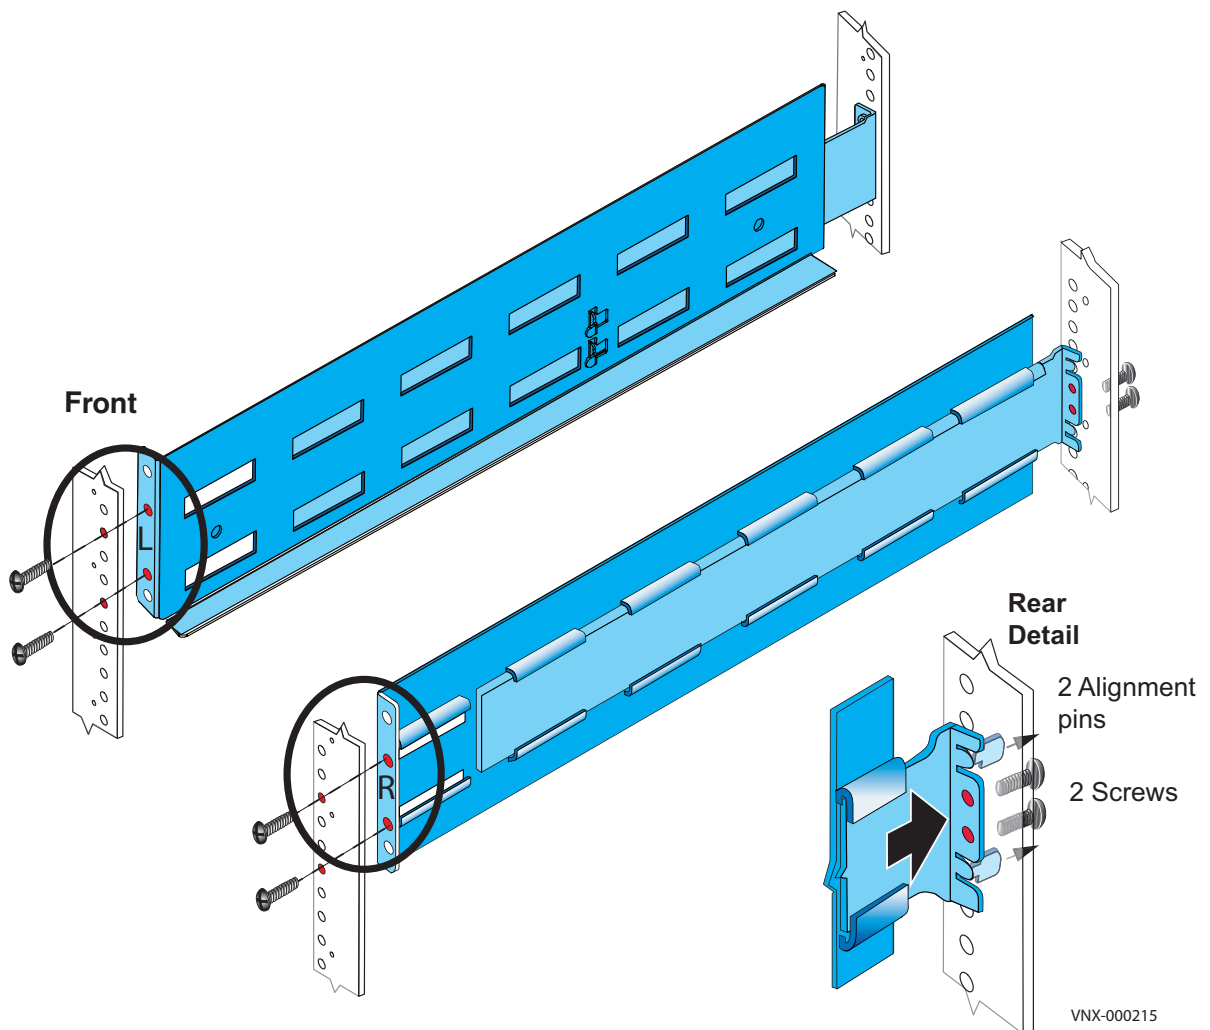

Figure 2 Installing the DPE rails
2. Extend the rail and align the front of the rails as shown in Figure 2.